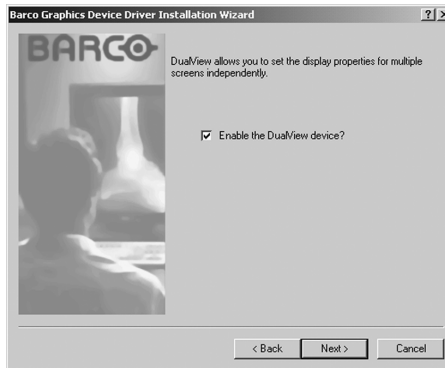

Figure 24
7. Your selection on the "Enable DualView" screen (figure 24 below) determines if DualView is enabled or not. DualView allows a dual head display controller to display two separate desktops, one for each display instead of a single virtual desktop that spans across both displays.